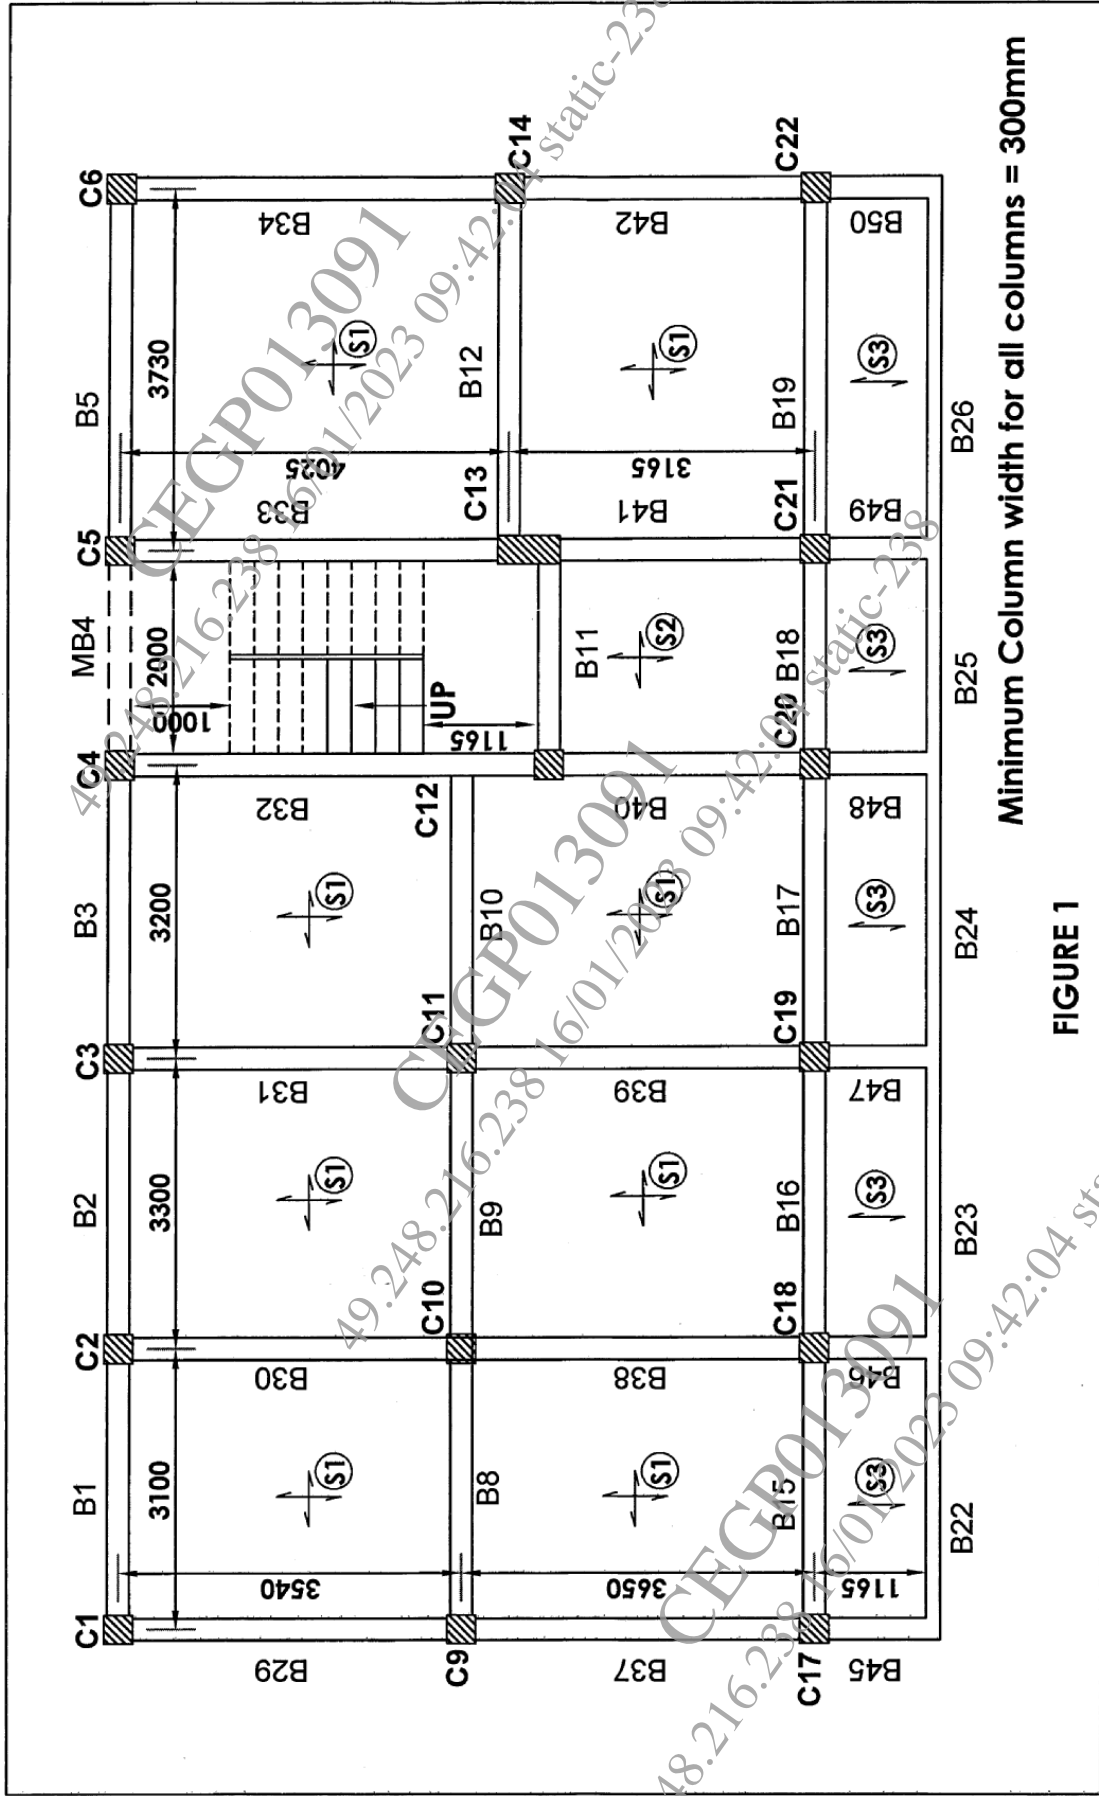

FIGURE 1
**Q1) a)** Design any intermediate flight of a dog legged staircase of a residential building as shown in Figure 1 with the following data: **[13]**
**Q2)** Design a simply supported reinforced concrete floor beam B12 as shown in Figure 1 with following data: [18]
**Q3)** Design a continuous floor beam B8-B9-B10 as shown in Figure 1 using IS code coefficients (or moment distribution). Thickness of the all floor slab is 120 mm, live load and floor finish load on all slabs are 2.5 kN/m2 and 1.5 kN/m2, respectively. The wall on this beam is 230 mm thick and 2.7 m high. Use M 25 and Fe 500 steel. Design longitudinal reinforcement for all the spans and support for flexure. Design shear reinforcement only for beam B19. Draw neat sketch showing details of main and shear reinforcement. Use LSM. [17]
**Q5)** Design an axially loaded short column C10 as shown in Figure 1 from terrace to footing level (floor wise four parts of column) for a G + 2 building with following details: **[18]**